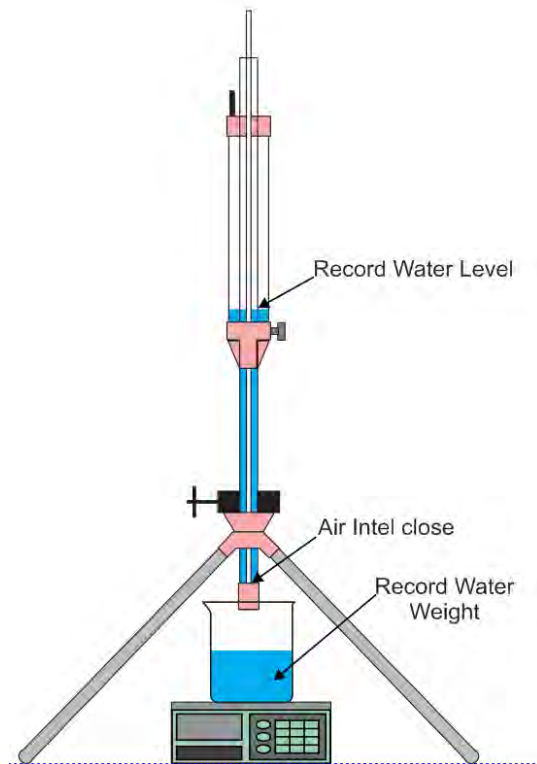

Fig. 41
**Record the water weight (Fig. 41)** in the Beaker ( $V$  in  $\text{cm}^3$ ). Please note that the assumption here is that each gram of water has one cubic centimeter of volume. The volume of water changes slightly due to ambient (room) temperature. Therefore  $V$  can be corrected for temperature using the Water Density Table.